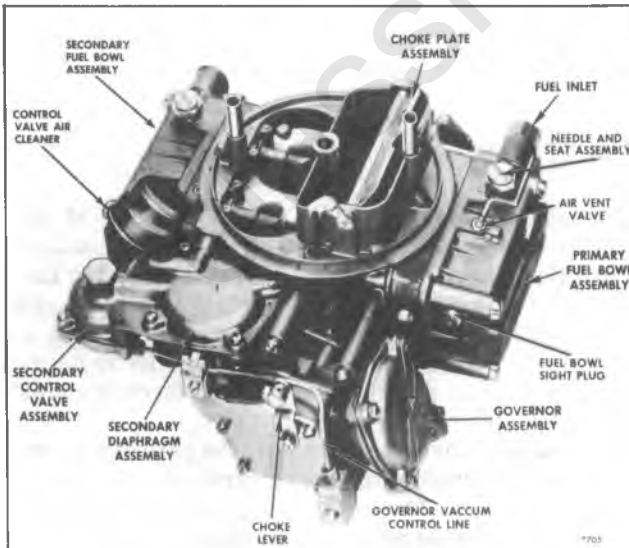

Figure 30—Holley Carburetor (Right Front View)
1. Remove air cleaner, disconnect primary coil wire, then remove fuel level sight plugs (fig. 30).
4. If necessary to adjust (either or both bowls), loosen lock screw (fig. 30), and turn the adjusting nut clockwise to lower or counterclockwise to raise fuel level, then tighten lock screw.